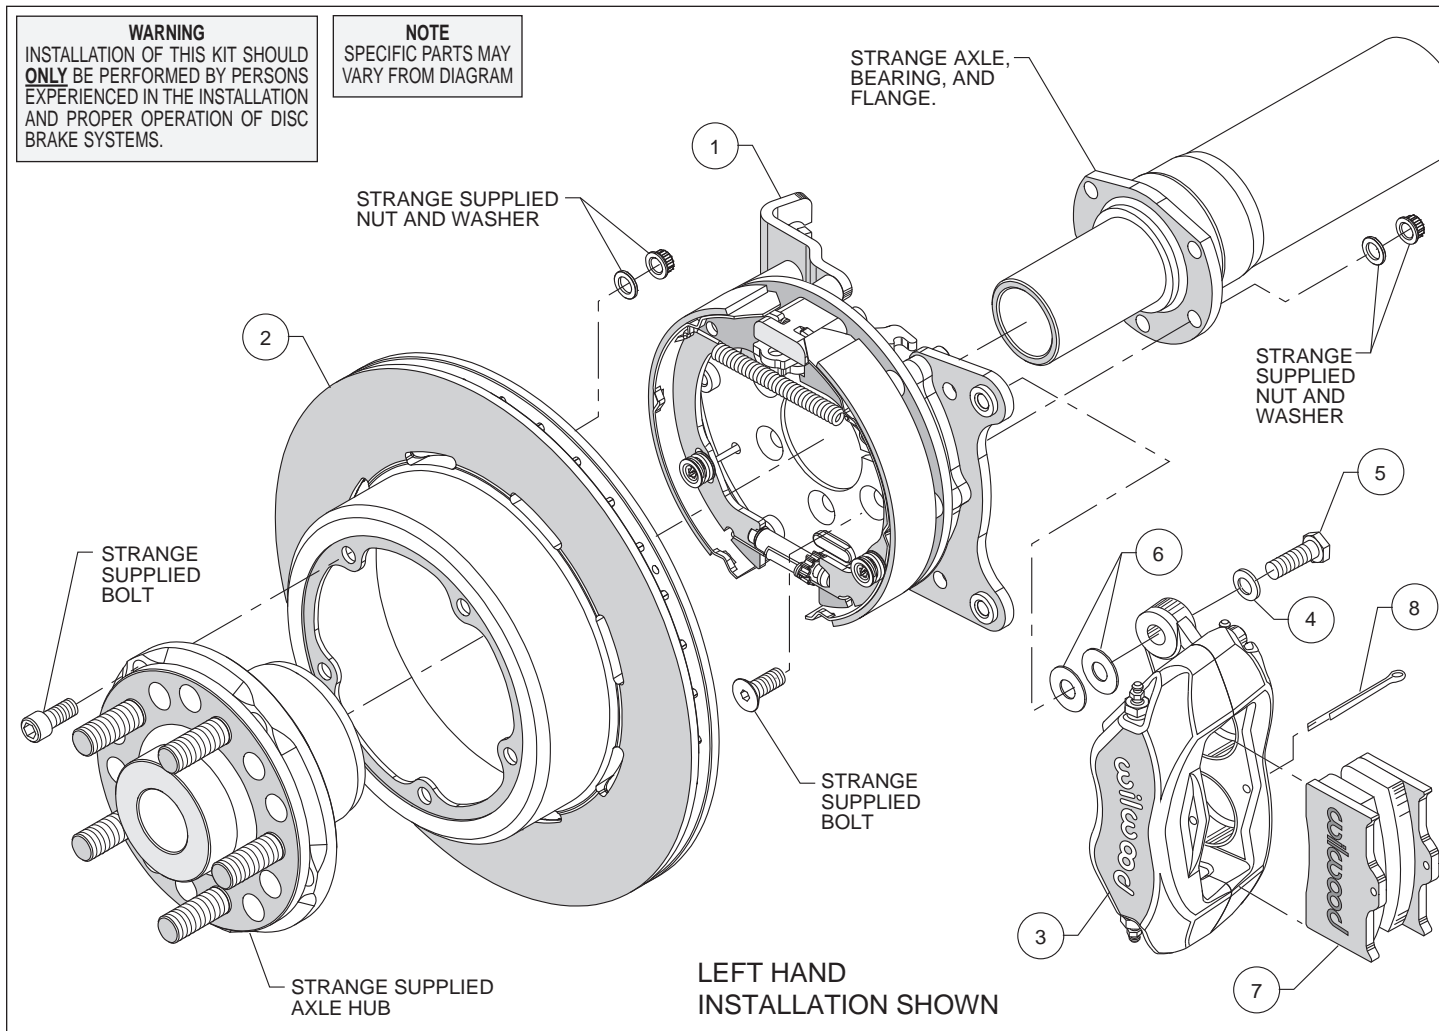
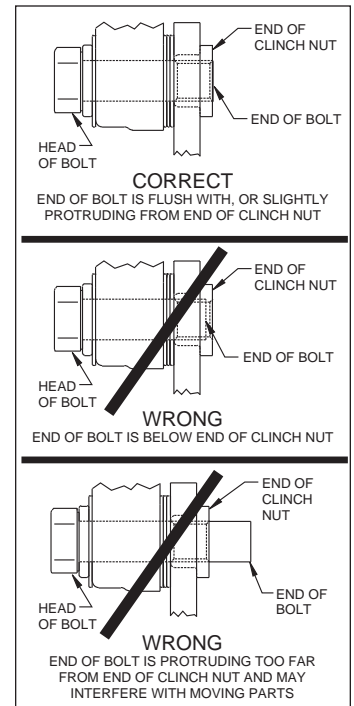

Figure 1. Typical Installation Configuration
Figure 3. Clinch Nut Engagement Diagram
Assembly Instructions (numbers in parenthesis refer to the parts list and Figure 1 on the preceding pages): **CAUTION:** All mounting bolts must fully engage clinch nuts. Be sure to check that all bolts are either flush or protruding through flanged side of clinch nut after shimming, Figure 3.
- Orient the bracket assembly (1) as shown in Figure 1 and slide it onto the axle. Ensure that the bracket assembly backing plate fits flush against the axle housing flange. Mount the bracket assembly to the axle flange using bolts, washers, and nuts (all Strange supplied) as shown in Figure 1. Apply red *Loctite*® 271 to the bolt threads and torque to Strange specifications.
- Orient the rotor (2) and the axle hub (Strange supplied) as shown in Figure 1. Attach the rotor to the axle hub using bolts, washers, and nuts (all Strange supplied) as shown in Figure 1. Apply red *Loctite*® 271 to the bolt threads and torque to Strange specifications.
- Slide the rotor/hub assembly onto the axle as shown in Figure 1 and secure per Strange specifications.
- NOTE:** Please reference the caution statement at the beginning of the assembly instructions. Mount the caliper (3) onto the caliper mounting bracket (1) using bolts (5) and washers (4), as shown in Figure 1. Initially place two .035" thick shims (6) on each bolt between the caliper and the bracket, Photo 1. Temporarily tighten the mounting bolts and view the rotor (2) through the top opening of the caliper. The rotor should be centered in the caliper, Photo 2. If not, adjust by adding or subtracting shims between the bracket and the caliper. Always use the same amount of shims on each of the two mounting bolts. **NOTE:** The end of each bolt must be flush with or slightly protruding from the head of the clinch nut, as shown in Figure 3. If necessary place spare shims between washer (4) and caliper mounting ear to achieve the proper clinch nut engagement. Once the caliper alignment and clinch nut engagement are correct, remove the bolts one at a time, apply red *Loctite*® 271 to bolt threads, and torque to 40 ft-lb.
- Install the disc brake pads (7) into the caliper, with the friction material facing the rotor (2), and secure in place using cotter pin (8), Photo 3.
- NOTE:** Clevis and cable kits which attach to the parking brake assembly are not included in the Wilwood parking brake kit. Wilwood offers a generic style parking brake cable kit, P/N 330-9371 for this application which can be ordered separately from your local Wilwood dealer or by calling Wilwood customer service at (805) 388-1188.
- Before final installation of the wheel, remove the rubber grommet in the bracket kit assembly (1) and adjust the parking brake shoes outward (using a drum shoe adjustment tool available at your local auto parts store) while spinning the rotor/hub (2) until a slight drag is felt against the hat/drum. Replace the rubber grommet when finished.